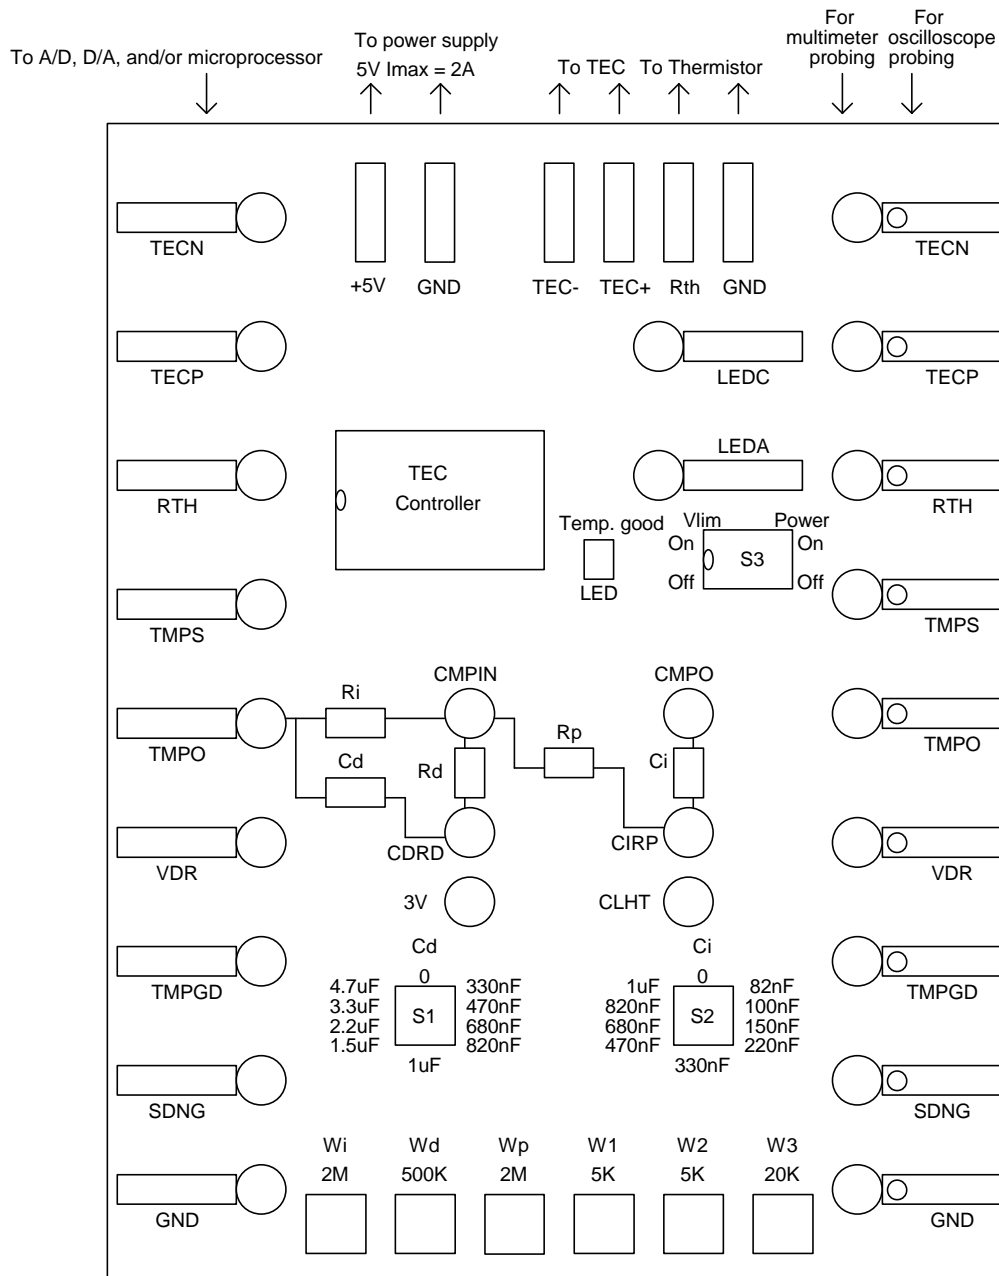
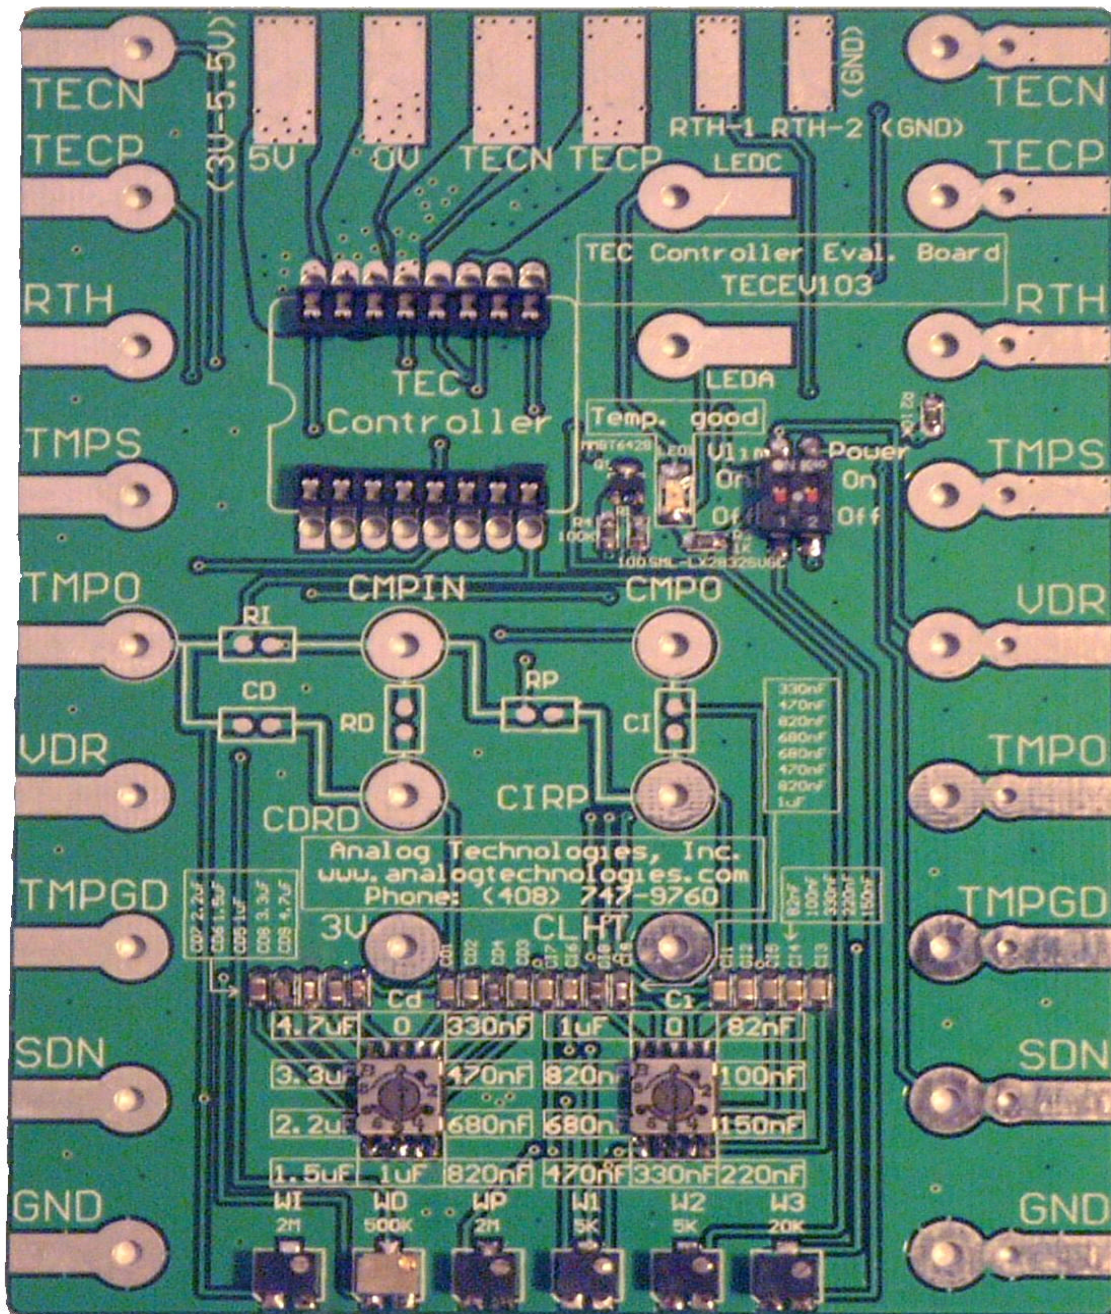

Figure 1 TEC Controller Evaluation Board TECEV103
Figure 2 TECEV103 Photo
Figure 1 shows the layout of the evaluation board and Figure 2 shows its photo.
- Figure 1 shows the layout of the evaluation board and Figure 2 shows its photo.
- After tuning, the values of the capacitors for Cd and Ci can be read off the capacitor selection switches. The values of the resistors, Ri, Rd and Rp, can be measured by an Ohm-meter by connecting to the resistor pins. As seen in the photo of Figure 2, Ri can be read off between TMPO and CMPIN test points; Rd can be read off
- a. To know the actual target temperature, use a voltage meter to measure the voltage between the TMP O and the GND pins, the reading result is: target temperature = 15 °C + (TMPO voltage (V))*6.67 °C for approximation (see the curve in the TEC controller data sheet).
- d. To shut down the TEC controller, turn the Power switch to the “Off” position, see Figure 2.